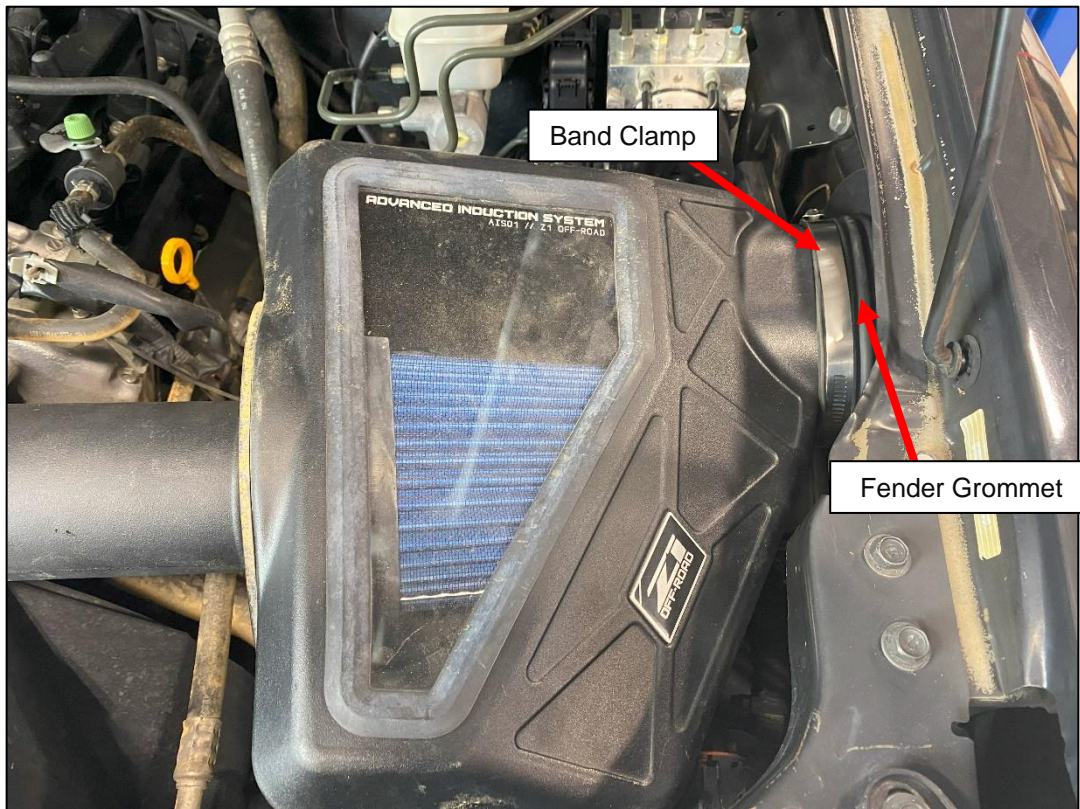

Figure 19
31. Locate your Z1 Airbox and the Large Band Clamp. Place the Large Band Clamp on the Fender Grommet installed in *Step 28*. Reinstall the Z1 Airbox and fit it to the new Fender Grommet as shown. Once positioned, tighten the Large Band Clamp, securing the Airbox in place. *Figure 19*.